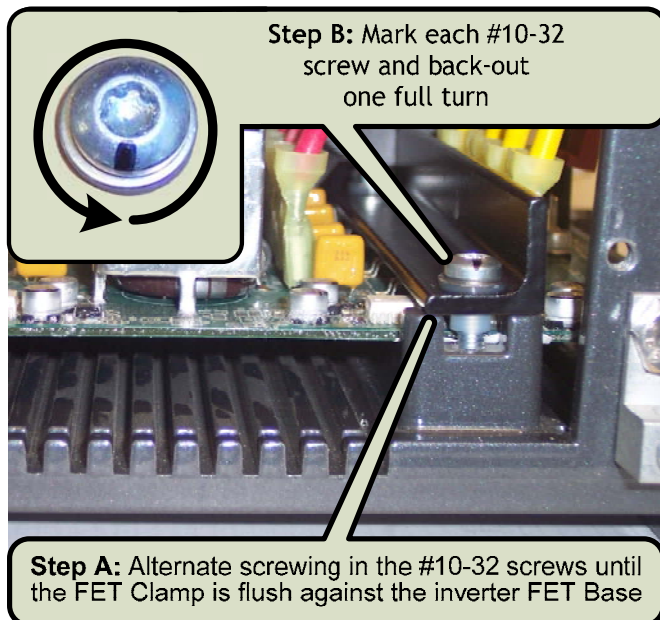

Figure 5, FET Clamp to inverter FET base tension
3.2.6 Alternate tightening the four #10-32 screws until each screw is tight and the FET clamp is flush against the inverter base. Make a mark on each screw for reference and back out the screw one full turn to provide the correct tension to the FET's. See figure 5 for reference.